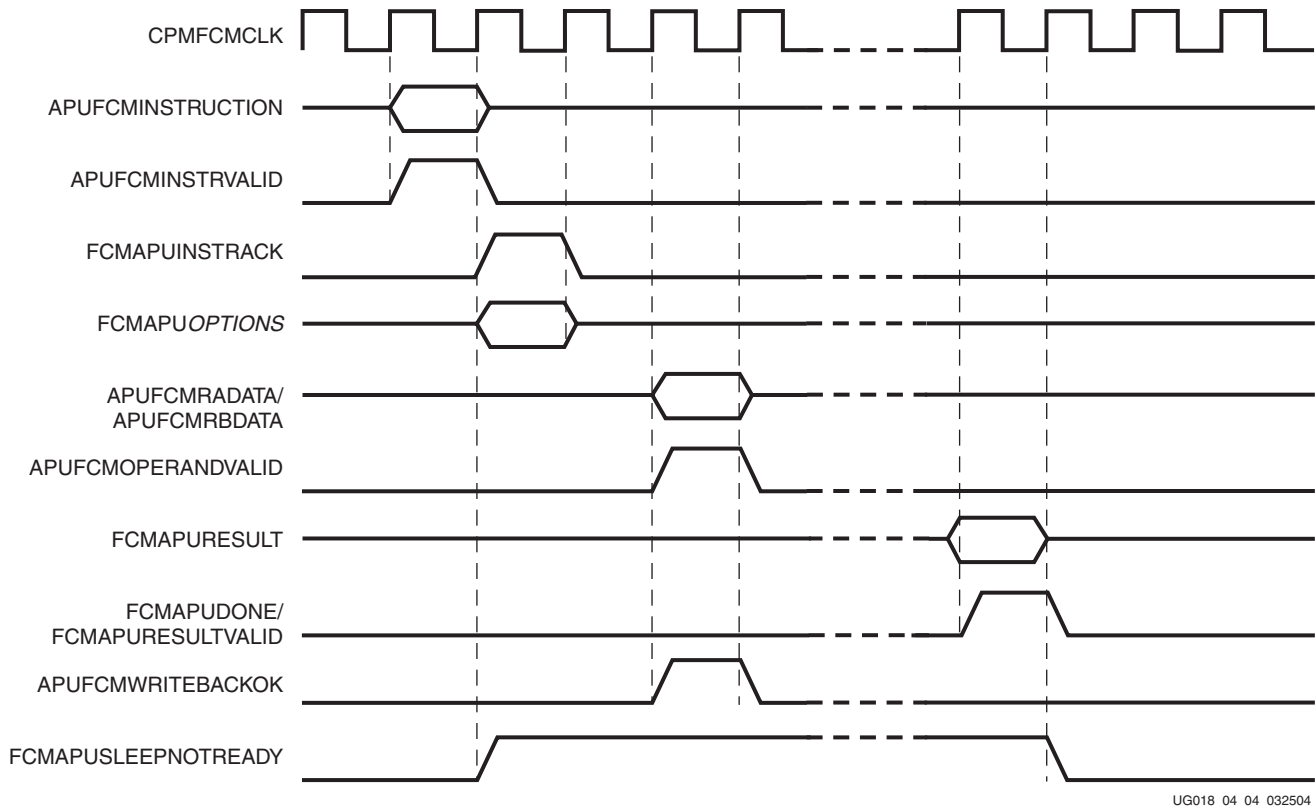

Figure 4-5: FCM Decoded Blocking Transaction Example
In the example shown in Figure 4-5, the FCM responds in the next cycle by setting FCMAPUINSTRACK High and sending any of the FCMAPUOPTIONS that are used by this instruction. To respond in a later cycle please see Figure 4-12 and Figure 4-13.
After the FCM has received APUFCMWRITEBACKOK it can respond with FCMAPURESULT[0:31], FCMAPURESULTVALID, and FCMAPUDONE in the same cycle or anytime after that. The timing diagram in Figure 4-5 assumes the signals from the FCM are coming off of flip-flops, so FCMAPURESULTVALID, etc. arrive the cycle after APUFCMWRITEBACKOK. FCMAPURESULT[0:31] and FCMAPURESULTVALID must arrive the same cycle. FCMAPUDONE can arrive during the same cycle as these or any
In the example shown in Figure 4-5, FCMAPUSLEEPNOTREADY is set High the same cycle the instruction acknowledge is sent. This is the latest cycle the signal should go High and it should remain High until the instruction is completely finished in the FCM (even if FCMAPUDONE has been sent). FCMAPUSLEEPNOTREADY will not prevent a new instruction from being sent to the FCM.
**Note:** Actual timing results may vary from those shown in Figure 4-5. For example, the operands could come later than shown.